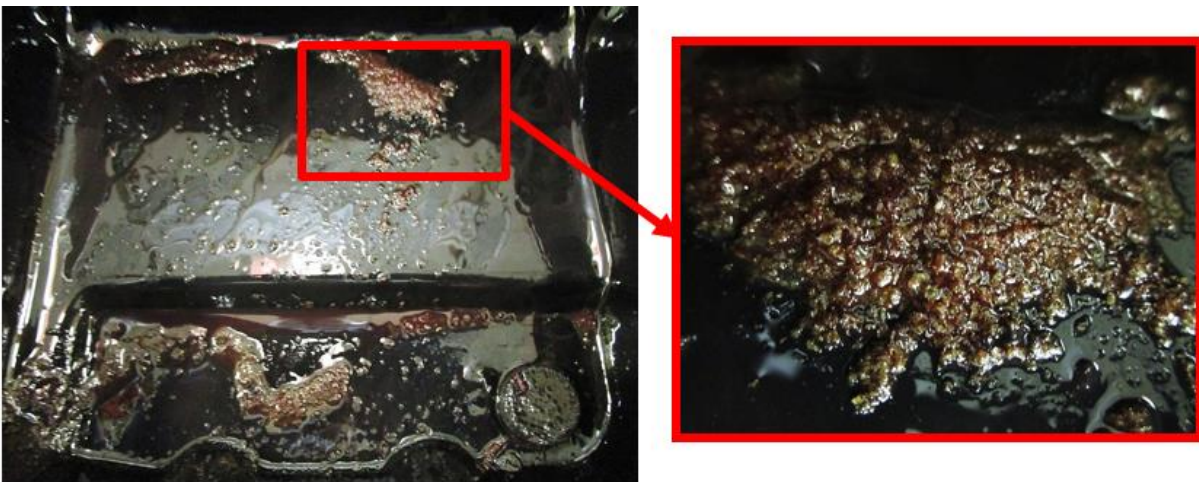
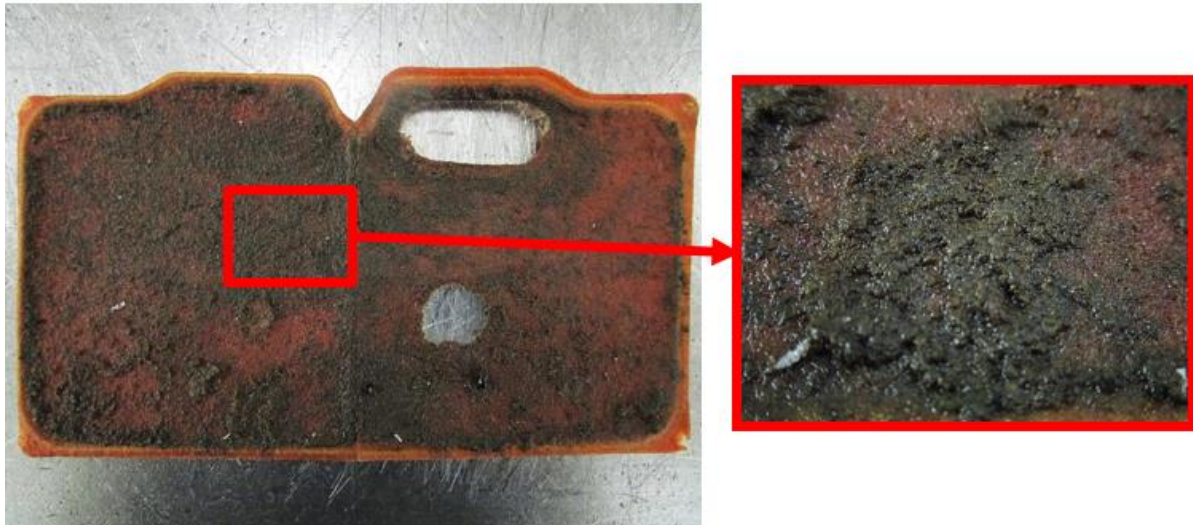

Figure 1.
Figure 2.
<ul style="list-style-type: none">• Transmission Slip or Erratic Shift• DTC P0740• DTCs P0868, and P0944 Are not present• Fluid does not show signs of thermal deterioration• Filter, pan and magnet do not show signs of friction material	<ol style="list-style-type: none">1. Inspect condition of transmission fluid (Note 1). If the fluid shows signs of thermal deterioration, refer to Service Action C. Otherwise, continue to Step 22. Remove the transmission pan, and inspect for friction material present (Figure 1). If significant friction material is present, refer to Service Action C. Otherwise proceed to Step 3.3. Remove transmission filter, and inspect for significant clutch friction material present. (Figure 2). If significant friction material is present, refer to Service Action C. Otherwise proceed to Step 44. Replace the following components:<ol style="list-style-type: none">a. Torque Converterb. Trans Fluidc. Transmission Filter
<ul style="list-style-type: none">• Transmission Slip or Erratic Shift• DTCs P0740 and/or P0868 Are present• Possible Gear Ratio DTCs Present• DTC P0944 is NOT present.• Fluid does not show signs of thermal deterioration• Filter, pan and magnet do not show signs of friction material	<ol style="list-style-type: none">1. Inspect condition of transmission fluid (Note 1). If the fluid shows signs of thermal deterioration, refer to Service Action C. Otherwise, continue to Step 22. Remove the transmission pan, and inspect for significant friction material present (Figure 1). If significant friction material is present, refer to Service Action C. Otherwise proceed to Step 3.3. Remove transmission filter, and inspect for significant clutch friction material present. (Figure 2). If significant friction material is present, refer to Service Action C. Otherwise proceed to Step 44. Inspect clutch plates for signs of significant wear.5. If there are signs of friction material debris, but the clutches are not significantly worn, and the transmission fluid does not show signs of significant thermal deterioration, perform the following: (Note2)<ol style="list-style-type: none">a. Replace the torque converterb. Replace the transmission coolerc. Replace the transmission fluidd. Flush or replace transmission lines.e. Replace the valve bodyf. Replace the transmission filter
<ul style="list-style-type: none">• Transmission Slip or Erratic Shift• DTCs P0868, and/or P0740 set along with P0944	<ol style="list-style-type: none">1. Inspect condition of transmission fluid (Note 1)2. Remove the transmission pan, and inspect for significant friction material present (Figure 1)
3. Remove transmission filter, and inspect for significant clutch friction material present. (Figure 2)